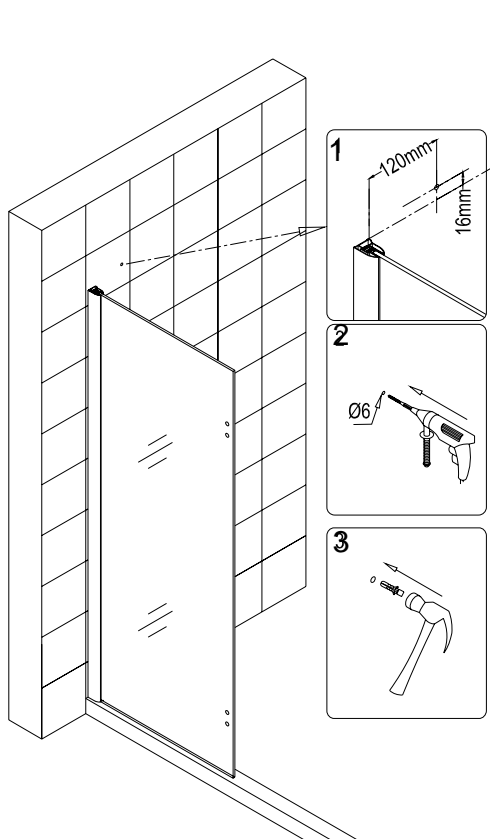

Fig 3
3. Locate the **Support bar (03)** from the package and loosen the glass holding screw on the gliding channel. Place the **Support bar** with channel end on the glass top edge and the bracket end flat on the wall. Adjust the bar to a proper position and level it horizontally. Hold it firmly and outline the bracket's position on the wall with a pencil. Take off the **Support bar** and remove the bracket from it. Place the bracket against its position on the wall and mark the drill hole. Drill the hole, insert the anchor and attach the bracket onto the wall with the **Screw ST4.2x30 (14)**. Replace the **Support bar** with channel seated on the glass and the other end underneath the bracket. Attach it to the bracket with the set-screw provided. Straighten the bar and fasten both set-screws and the glass holding screw to secure the glass. See fig. 3, 4 for details.